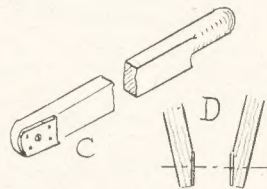

Fig. 4—Metal plate and angle at wheels
Economical readers may care to purchase a second-hand one, which can often be picked up cheaply enough. It should be 12ins. to 14ins. diameter, not larger. In most cases the axle will require metal bearings to turn in, and this can be met by cutting and fitting metal plates to the inside faces of the handlebars, at the fore end, as shown in Fig. 4 (C).